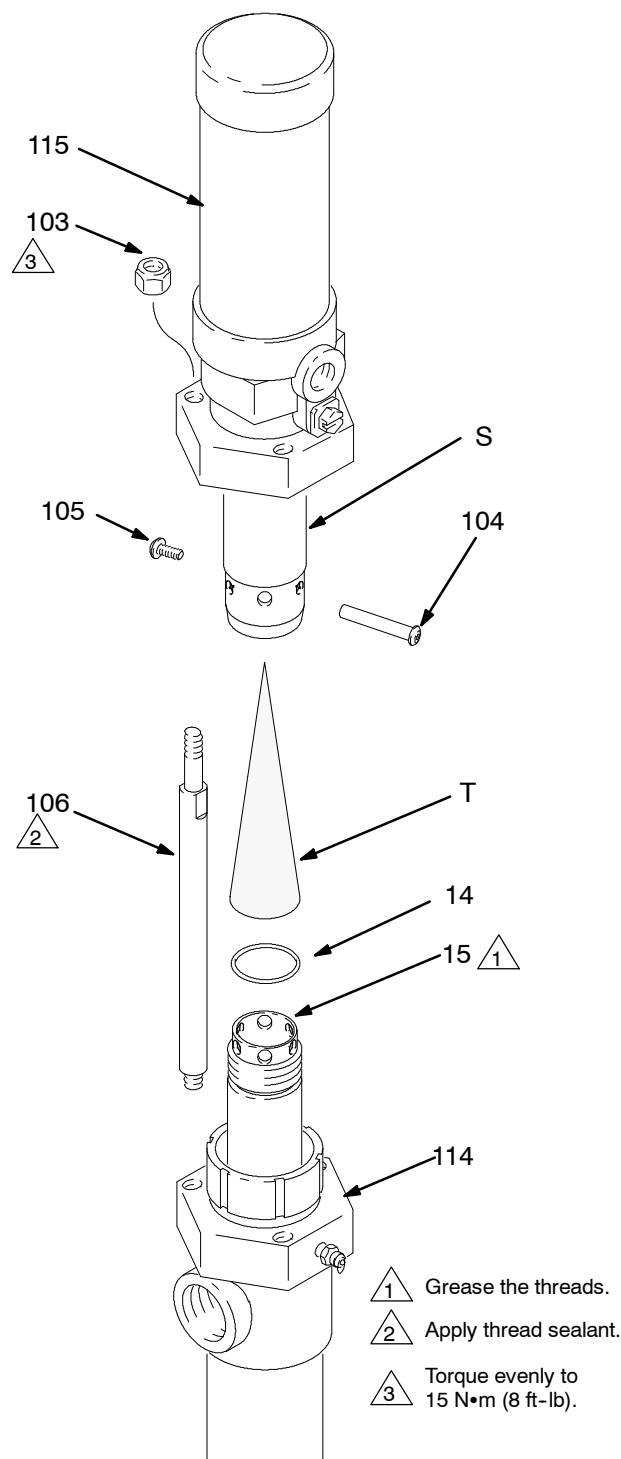

Fig. 6
3. See Fig. 6. Unscrew the tie rod locknuts (103).
4. Unscrew and remove the screw (105) and barrel (104).
5. Raise the air motor (115) away from the displacement pump (114). Unscrew the displacement rod (15) from the air motor connecting rod (S).
1. When reconnecting the air motor, use lithium base grease on the threads of the displacement rod (15). Make sure the o-ring (14) is in place on the rod.
2. Insert the muffler (T) into the air motor connecting rod (S) as shown in Fig. 6.
3. Tighten the displacement rod (15) into the air motor connecting rod hand tight, and install the barrel and screw set (104 and 105).
4. Apply thread sealant to the threads of the tie rods (106). To ensure proper alignment, first thread the tie rod locknuts (106) loosely onto the tie rods, then torque evenly to 15 N•m (8 ft-lb).
**NOTE:** Removing the muffler (T) will increase both pump flow rate and exhaust noise.